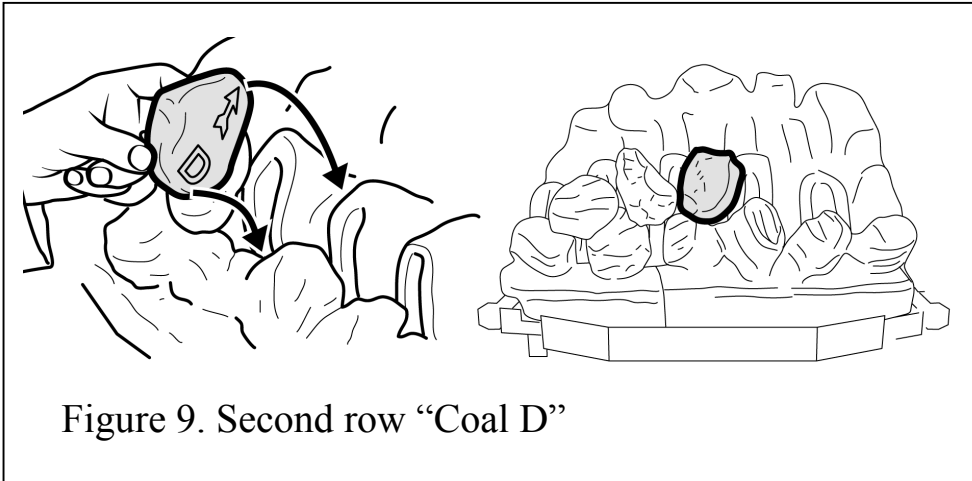

Figure 9. Second row "Coal D"
11. Hold coal 'D' upright with the arrow pointing to the top. Locate coal 'D' as shown in figure 9.